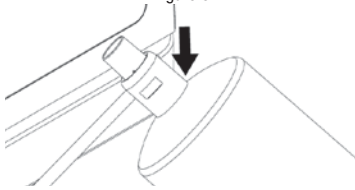

Figure 7
1. Make sure the regulator is securely fastened to the burner (Figure 7).